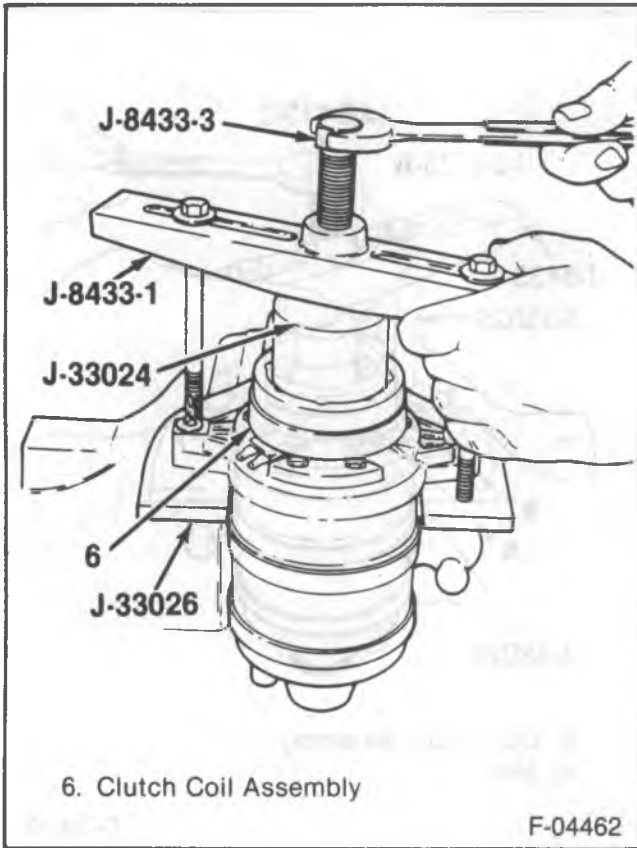
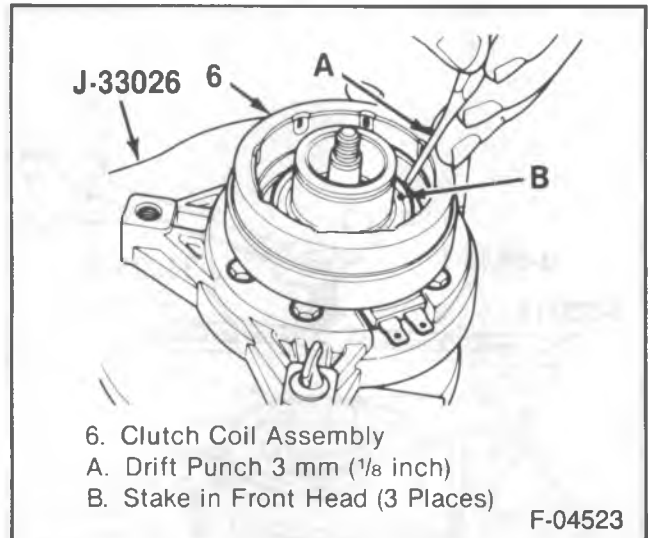

Figure 18 — Installing the Clutch Coil Assembly
Figure 19 — Staking the Clutch Coil Assembly to the Coil Head
2. Clutch coil assembly (6) onto the front head (11) with the terminals positioned at the "marked" location.
- J 33024 over the internal opening of the clutch coil assembly (6).
- Thread through bolts into J 33026 to full fixture thickness (figure 18).
- Be sure J 8433-1 and the clutch coil assembly (6) stay "in line" during installation.
- When the clutch coil assembly (6) is seated on the front head (11), use a 3 mm (1/8-inch) diameter drift punch to stake the head (11) at 3 places, 120 degrees apart to assure the clutch coil assembly (6) remains in position (figure 19).